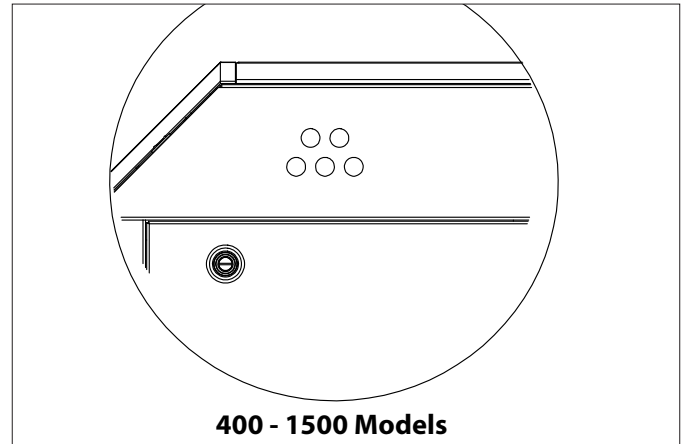

Figure 29 - Knockout Locations - 400 - 1500 Models Only
**NOTE:** A termination plug is included in the CAT 3 / CAT 5 Bus Connection Point, labeled J6 in Figure 29. **DO NOT REMOVE THIS PLUG!** Doing so will affect boiler operation and void warranty.
1. A Cascade Bus Termination Plug has been installed on the customer connection board of this boiler. The purpose of this plug is to stabilize communication between multiple boilers and reduce electrical "noise". See Figure 29 for Cascade Bus Termination Plug installation detail.
**NOTE:** It is important that the termination plug in multiple boilers (cascaded units) be installed as depicted in Figure 29. Leave the plug installed in the J6 port on the Master boiler. Remove the plug on intermediate Follower boilers. Move the plug to the J7 port on the final Follower boiler.
**NOTE:** All termination plugs must be installed as described in Figure 29 to ensure proper cascade operation.